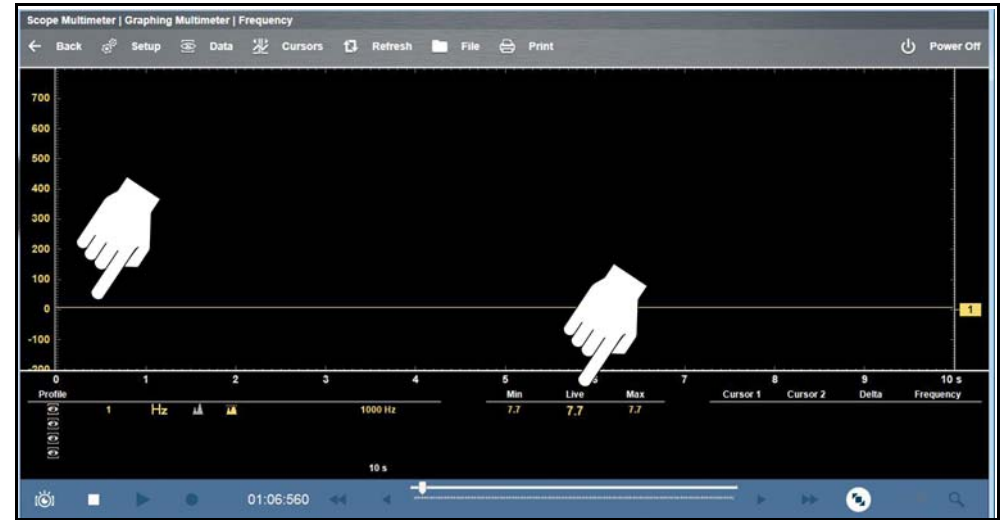

Figure 8-41 Scale at 1000Hz, frequency appears to be zero (is actually 7.7Hz)
If after enabling the Threshold function the signal is displayed as a flat line at zero (0) (Figure 8-41), reduce the vertical scale setting, as it may be set too high.